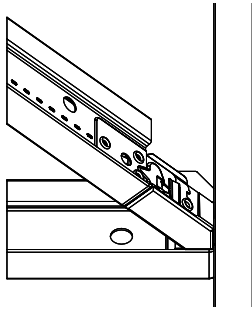

Fig 32
5. The overrides on the Corner Bracket should be flush with the main and XL Cross Tee (**Fig 32**)